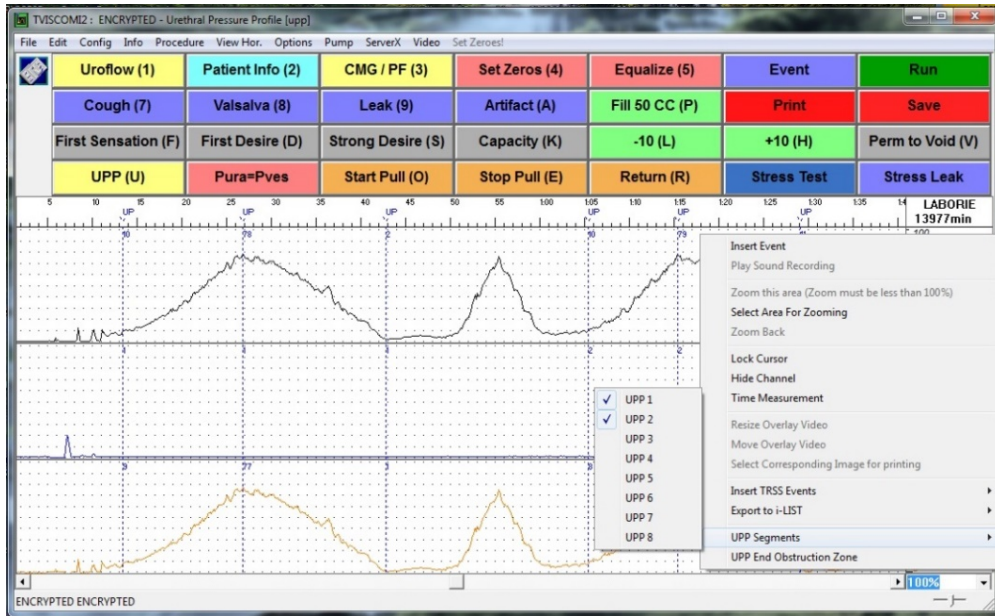

Figure 76: UPP Segments Menu
- b. Click the *UPP Segments* option from the context menu to view all the UPP Pulls marked on the graph (Figure 76).